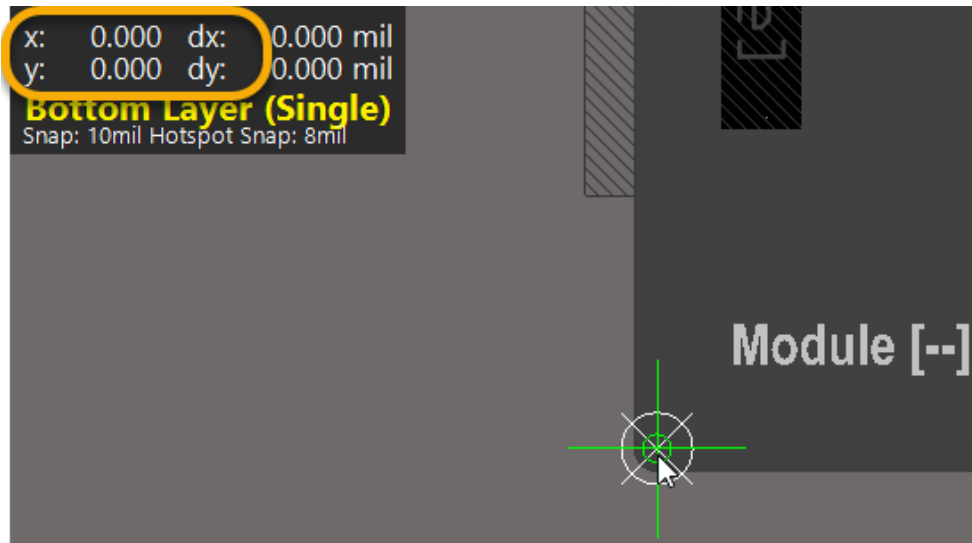

Figure 5. Heads-Up Display (HUD) showing (0,0) coordinates
23. Click on the board origin in the bottom left corner and the *HUD* should indicate the coordinates (0,0) as shown in Figure 5.